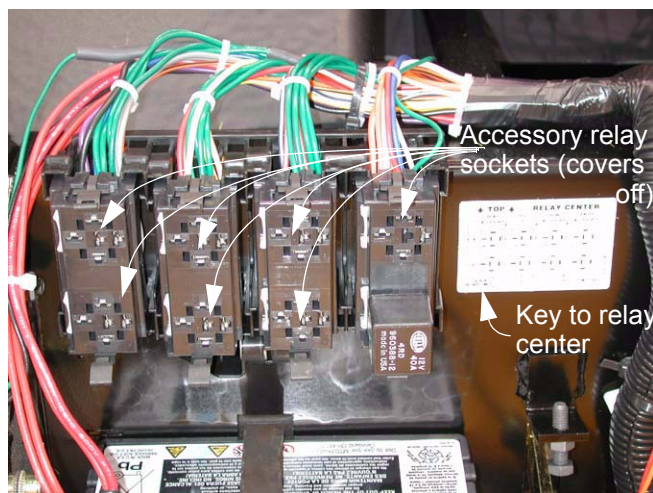

Figure 3.2
- 3.2. The relays and their sockets in the relay centered protected by plastic covers. See Figure 3.2.